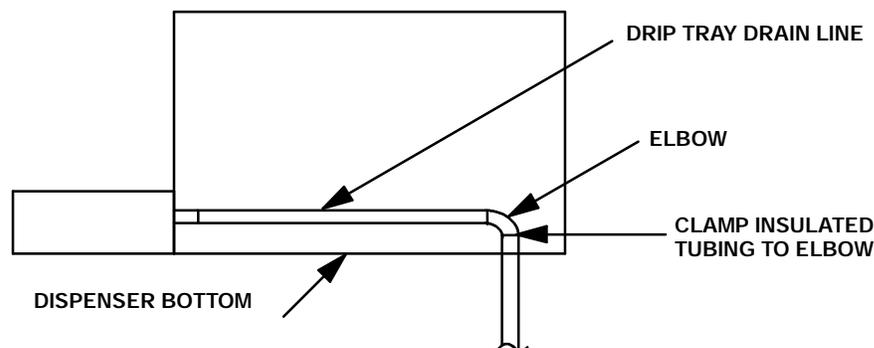

FIGURE 2. DRIP-TRAY DRAIN ASSEMBLY FOR BOTTOM HOOK-UP
3. **DRAIN CONNECTION:** Use the insulated tubing and clamp provided with the unit to assemble to the drip-tray drain. To insure proper drainage, do not allow a "trap" to form in the drain line. Check that the drain line runs flat with the bottom of the dispenser. See (Figure 2) for bottom hook-up of the unit drain line.